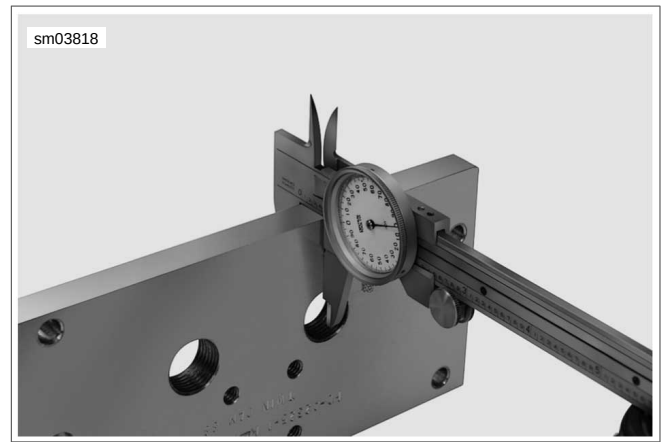

Figure 3-105. Measure Thickness of Support Plate
2. See Figure 3-105. Using a dial caliper, measure thickness of support plate.